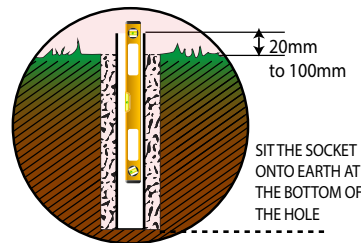

Fig 2b.
- 2b. For a temporary installation use a ground auger and pack with sharp sand and soil to secure the ground socket, use a level to check the socket is vertical and plumb checking at intervals as you infill the hole. Make sure there is a maximum of 20mm, maximum of 100mm of socket left above ground. (see fig 2b)